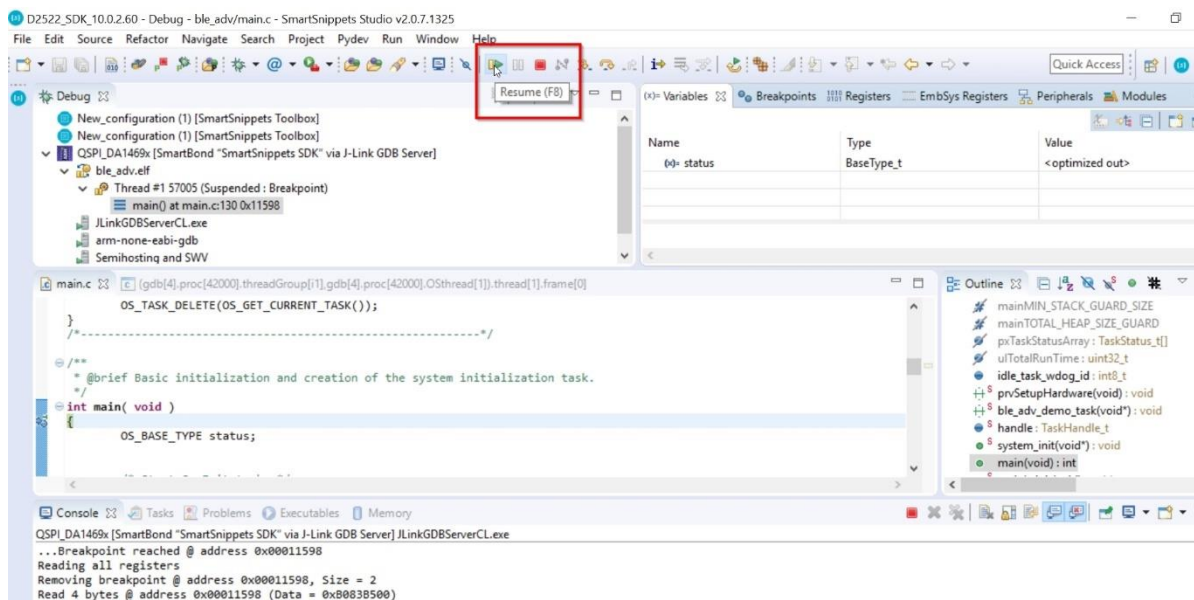

Figure 46: Executing the ADV BLE project in SmartSnippets™
2. Start execution of the ADV BLE project by selecting **Resume** inside the SmartSnippets™ Run menu or by hitting the **play** icon as indicated in **Figure 46**